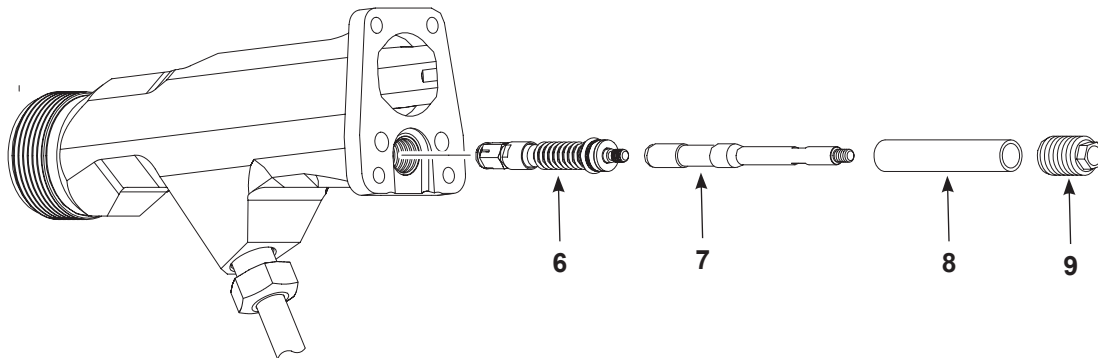

Figure 7-6 Packing Cartridge Replacement – Removing Cartridge From Extension and Pull Shaft
2. See Figure 7-6. Unscrew the packing cartridge retainer (9) from the extension.
1. See Figure 7-6. Apply a removable threadlocking adhesive (Loctite 242 or equivalent) to the threads of the new packing cartridge (6).
2. Screw the pull shaft (7) onto the packing cartridge.